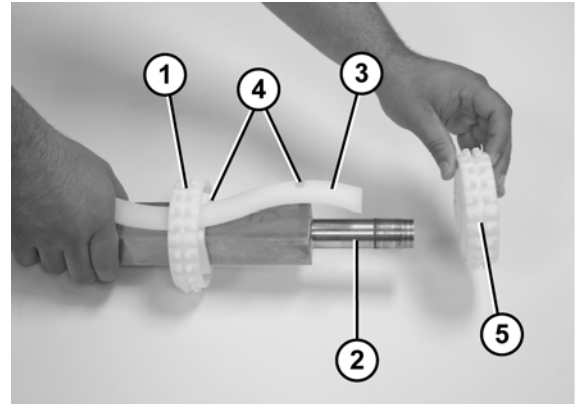

Figure 68
- Slide the first sprocket (Figure 68, item 1) onto the drive spindle (Figure 68, item 2).
- Insert the sprocket alignment bar (Figure 68, item 3) into the first sprocket and align the sprocket with the notch (Figure 68, item 4) in the sprocket alignment bar.
- Slide the remaining sprockets (Figure 68, item 5) onto drive spindle and align each sprocket with the notches (Figure 68, item 4) in the sprocket alignment bar.